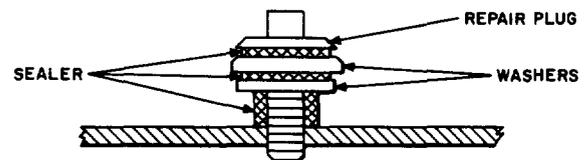

FIG. 1A
3.06 Apply the sealer to the metal around the puncture, covering an area about 1-1/2 inches in diameter. Start the repair plug into the hole. Apply the sealer to the neoprene and metal washer as illustrated in Fig. 1A. Screw the plug tightly into the perforation. Smooth the excess sealer into a fillet around the shoulder of the plug as shown in Fig. 1B.